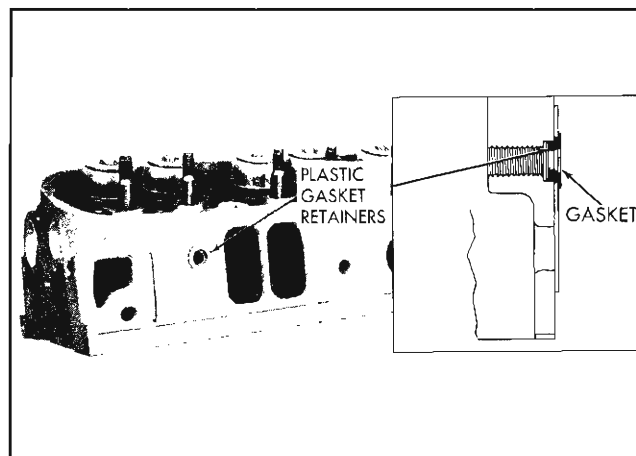

Fig. 6-17 Intake Manifold Gasket Retainers
1. Position gasket using retainers in cylinder head (Fig. 6-17). Replace "O" ring seal in recess at front of manifold.